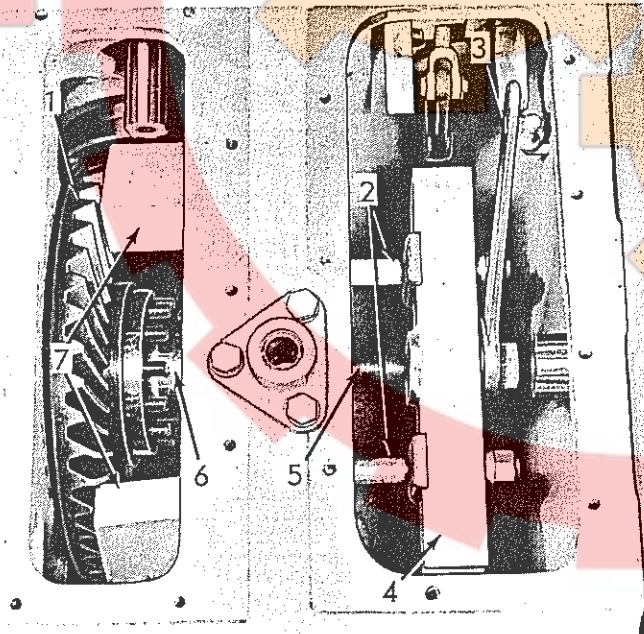

Fig. 20 Removing Bevel Gear Shaft
4. Refer to Fig. 20, install wooden blocks between bevel gear teeth and compartment wall to hold gear stationary. Install puller tools similar to those shown; pull bevel gear shaft from bevel gear.